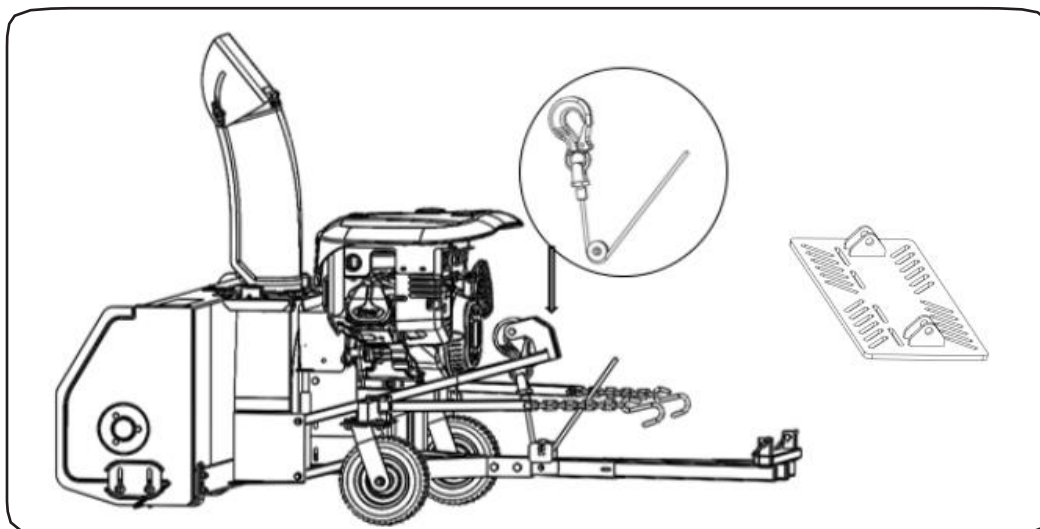

Figure 2-6
3. Remove the pin and the piston pin on the snowplow and mount the hook on the UTV to the snow blower, as shown in figure 2-6.